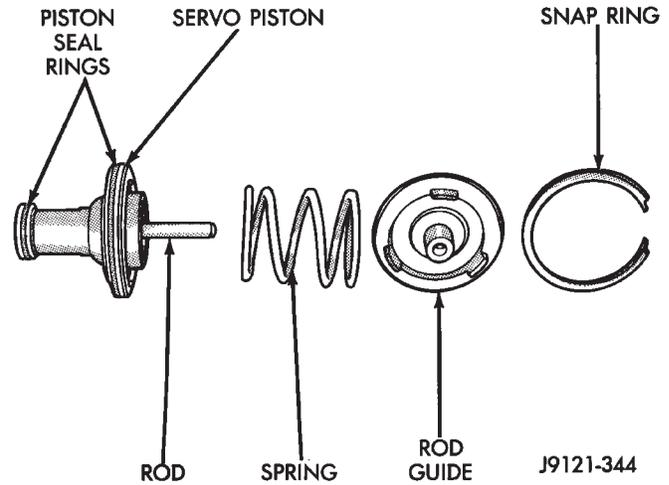

Fig. 132 Front Servo Components
(2) Install front servo piston assembly, servo spring and rod guide (Fig. 132).